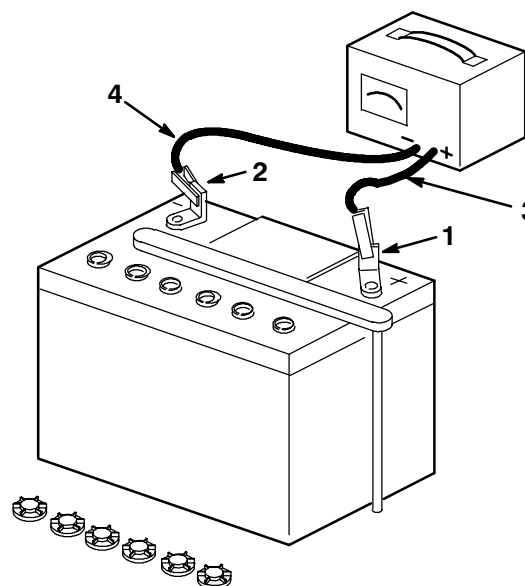

Figure 2
3. Leave the filler caps off and connect a 3 to 4 amp battery charger to the battery posts (Fig. 2). Charge the battery at a rate of 4 amperes or less for 4 hours (12 volts).
4. When the battery is fully charged, disconnect the charger from the electrical outlet and from the negative and positive battery posts (Fig. 2).